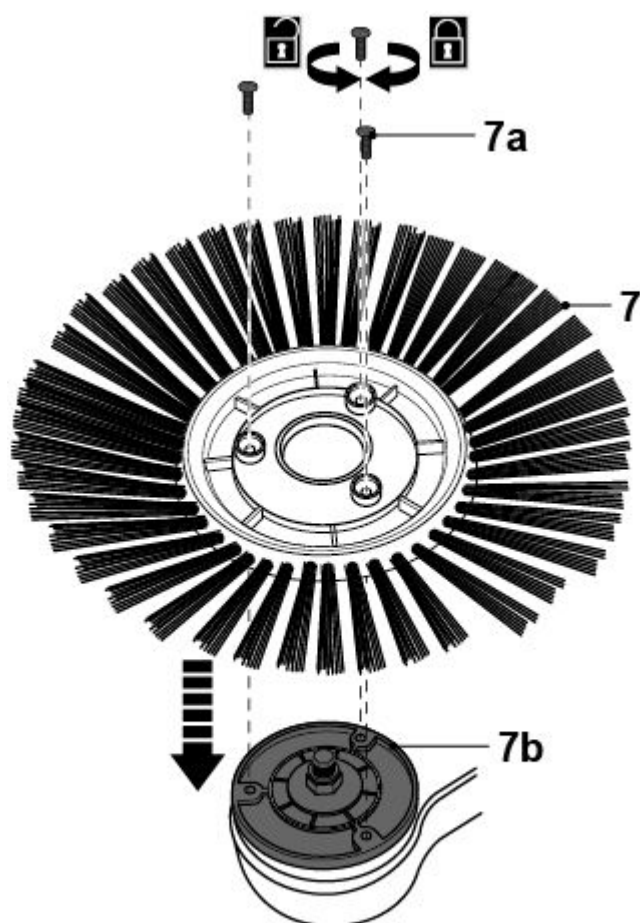

Fig. 1
fix it with screws (7) with the phillips head screwdriver (fig. 1, right).